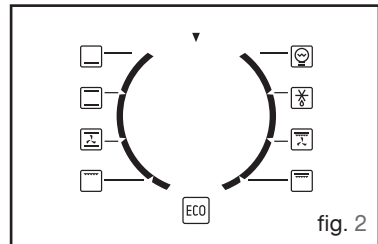

fig. 2
• **Multi-purpose dish (fig.2)**
When the time has lapsed, the timer will show "0 min" and the oven will switch off (fig.2)
Example: position “” (fig.2).